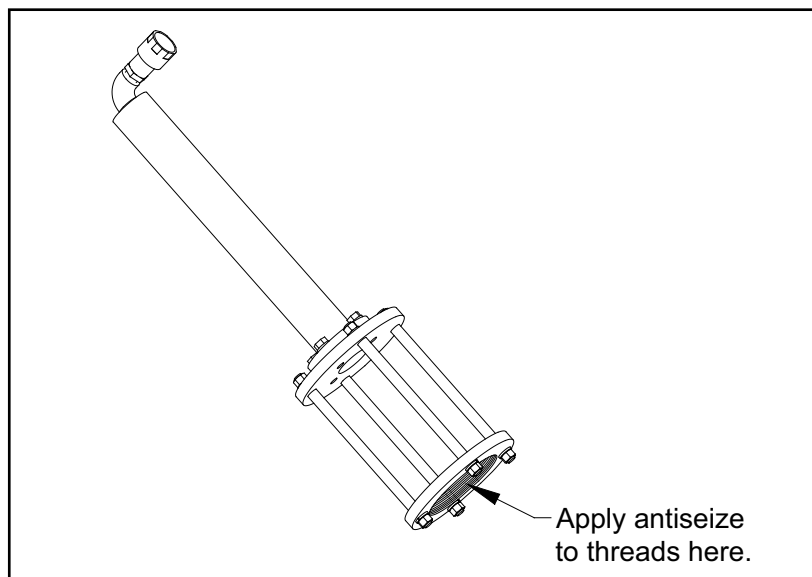

Figure 78: Insertion Mechanism - Anti-seize Application
3. Apply anti-seize lubricant to the insertion mechanism threads (see *Figure 78* below).